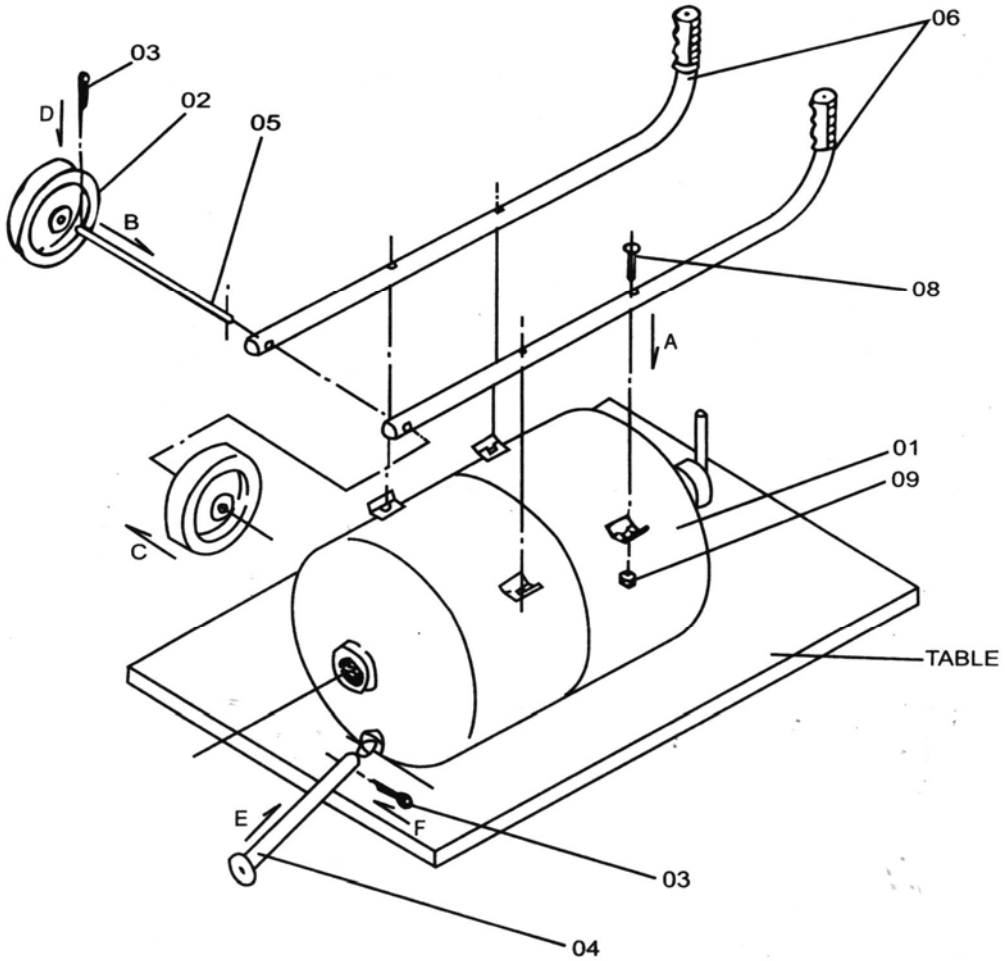

Fig. 7
7. See figure 7. Install the two handles (6) on the tank using four (8) bolts and four nuts. Make sure that the handles are facing up. Insert the shaft (5) through the holes in the handles (6). Place a wheel (2) on each end of the shaft and secure them with cotter pins (3).
8. Install the outrigger (4) in the tank's mount. Use a cotter pin (3) to secure the outrigger.